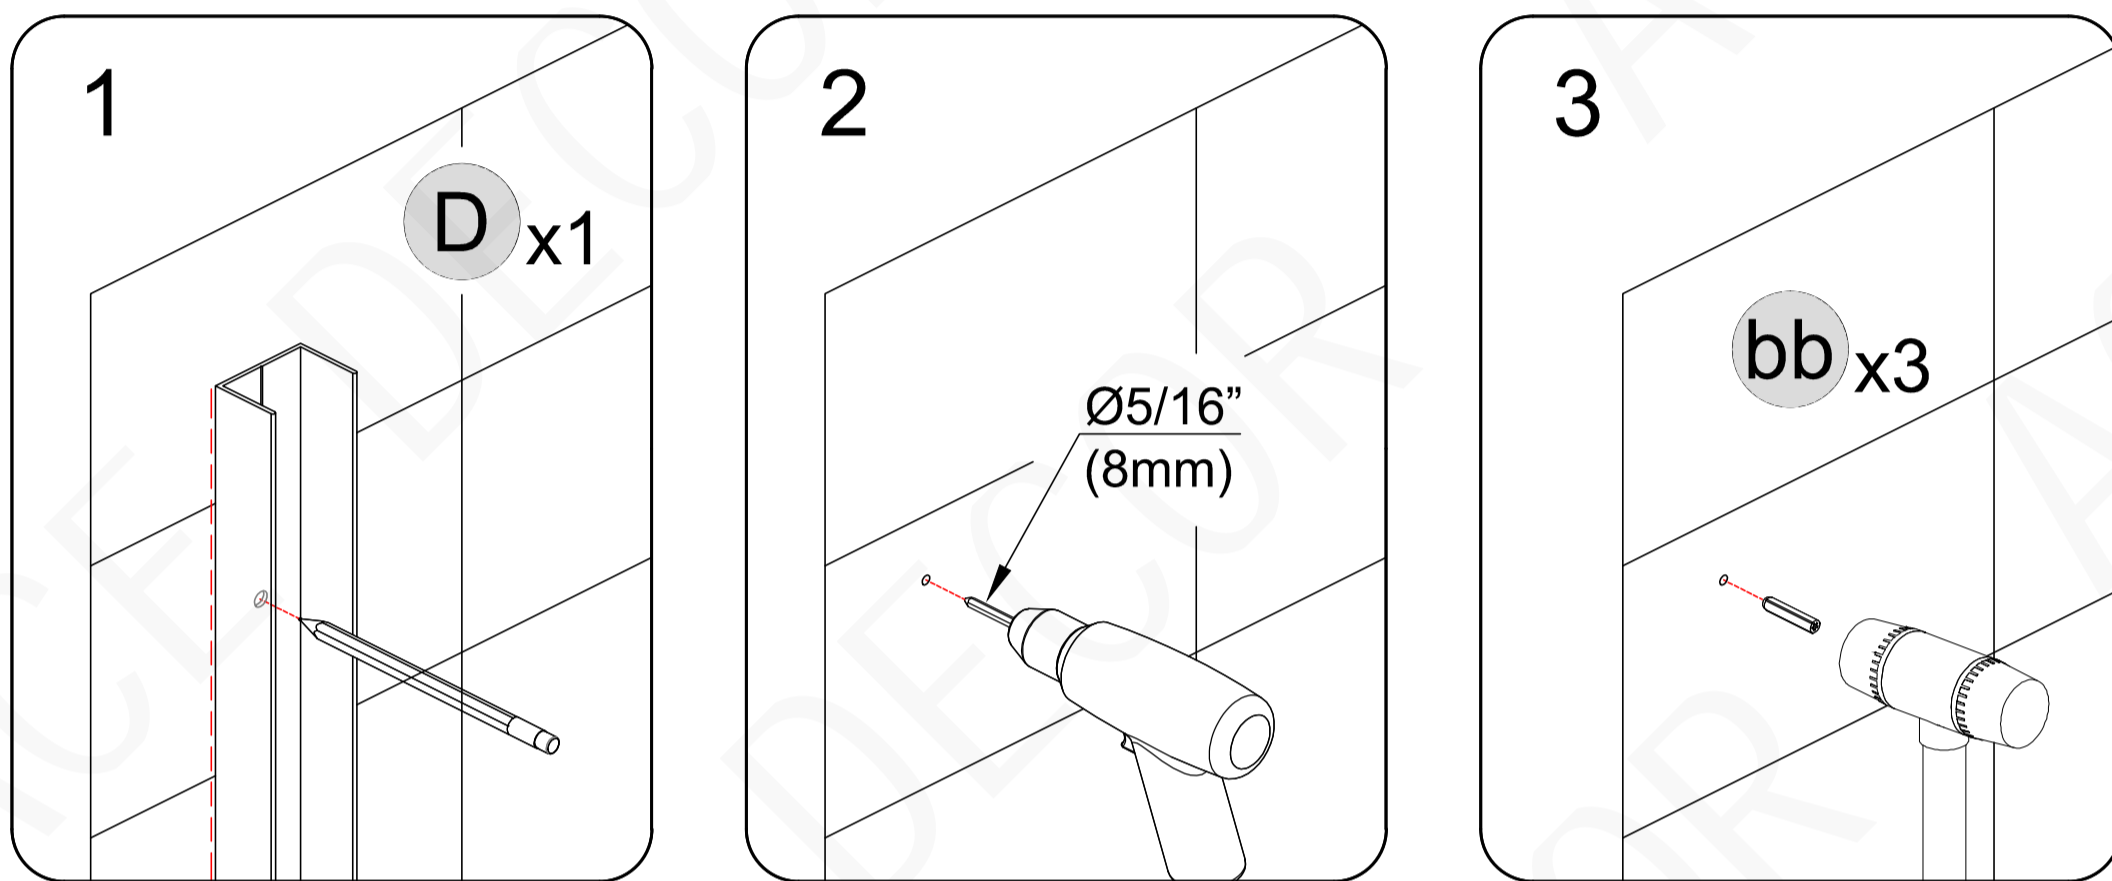

Fig 8
Move the frame assembly aside and remove the **Wall Jamb (D)**. Put **Wall Jamb (D)** back to the position marked in the previous step, and then mark the required hole. Drill the holes into the walls using a $\text{Ø}5/16''$ (8mm) drill bit and insert the **Wall Anchors (bb)**. Repeat this process for the opposite wall jamb. (Fig 8)